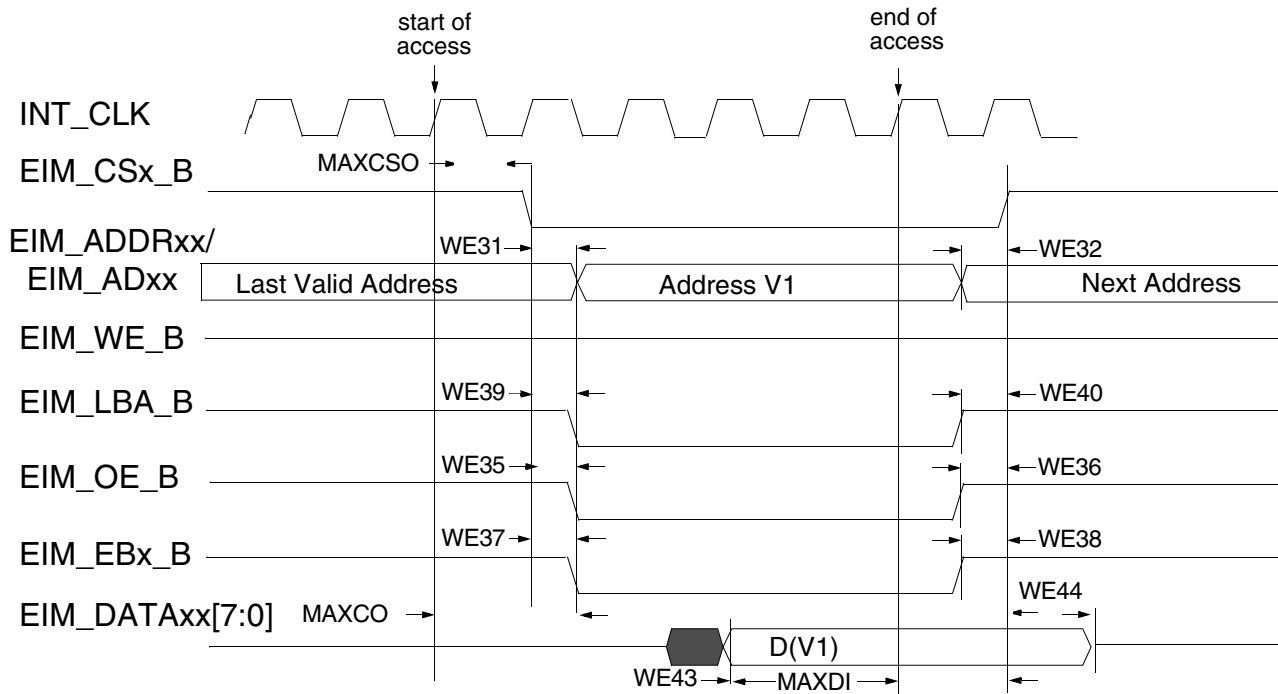
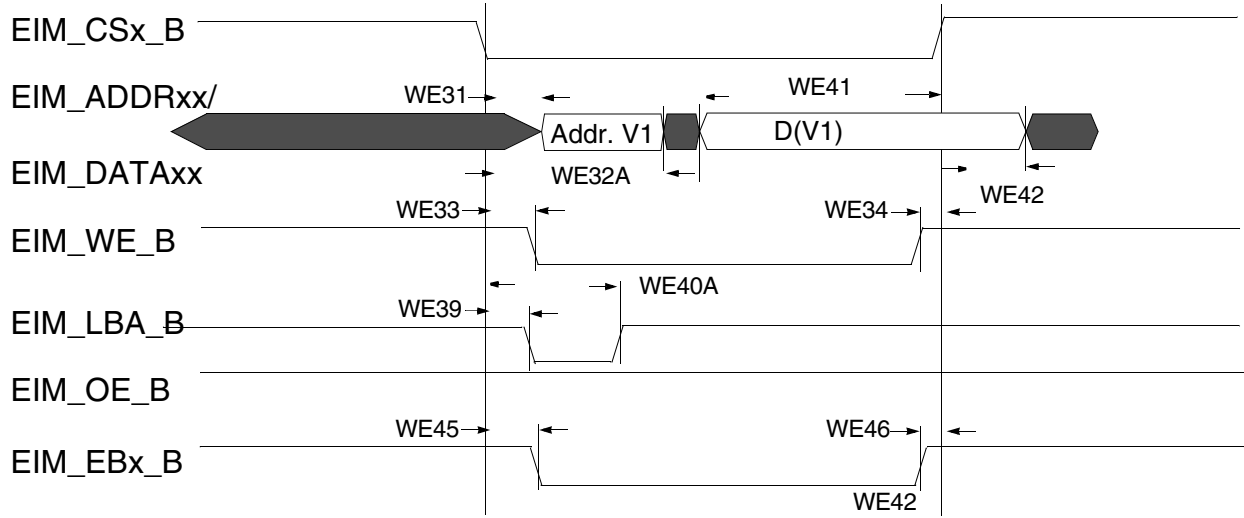
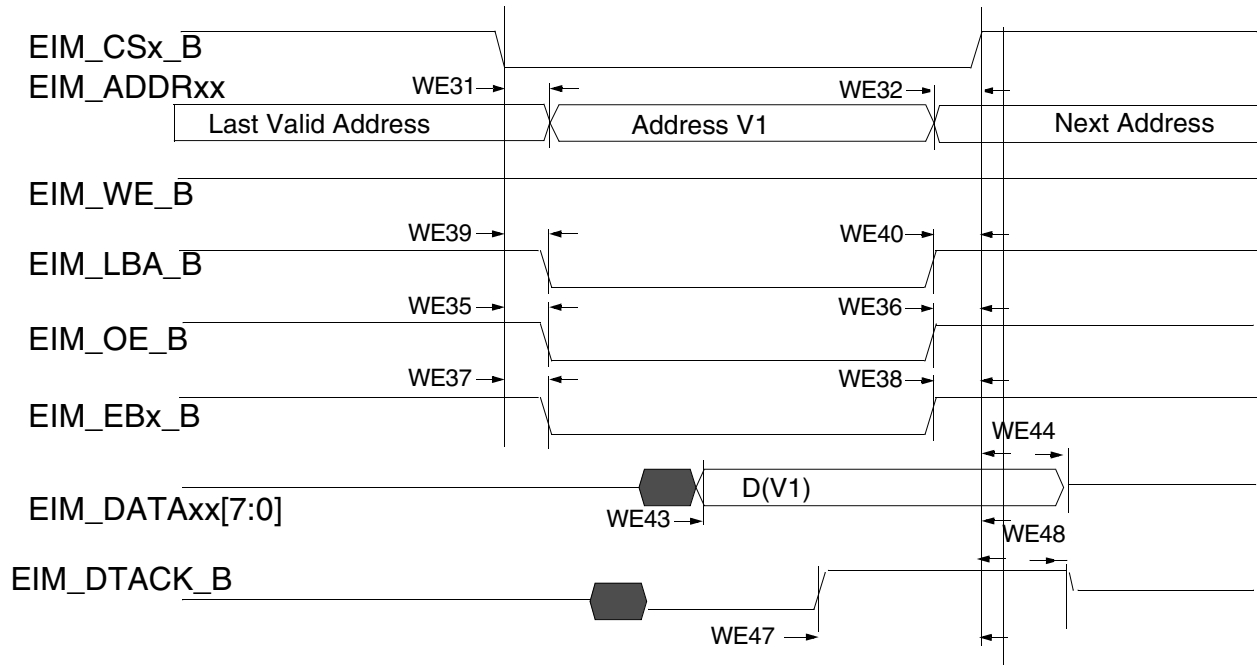

Figure 18. Asynchronous memory read access (RWSC = 5)
Figure 21. Asynchronous A/D muxed write access
Figure 22. DTACK mode read access (DAP=0)
Figure 18 through Figure 22, and Table 39 help you determine timing parameters relative to the chip select (CS) state for asynchronous and DTACK EIM accesses with corresponding EIM bit fields and the timing parameters mentioned above.
Asynchronous read & write access length in cycles may vary from what is shown in Figure 18 through Figure 21 as RWSC, OEN and CSN is configured differently. See the *i.MX 7Solo Application Processor Reference Manual (IMX7SRM)* for the EIM programming model.